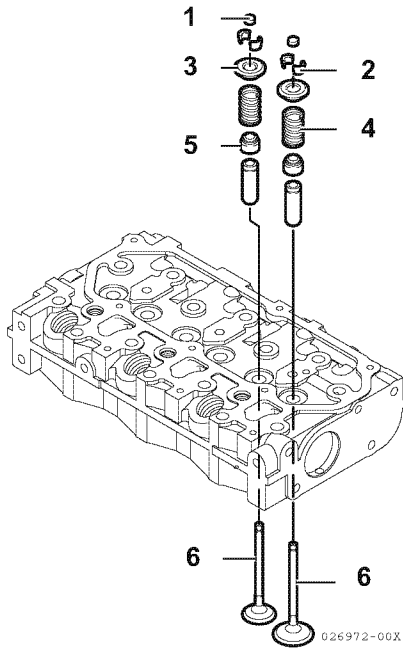

Figure 6-28
- Install all the valves (**Figure 6-28, (6)**) in their proper location in the cylinder head.
- Put the cylinder head on the work bench with the combustion side down to install the valve springs. Install the valve spring (**Figure 6-28, (4)**) and spring retainer (**Figure 6-28, (5)**).
- Insert the valve keeper (**Figure 6-28, (2)**) and slowly release the tension in the valve spring. Install the valve cap (**Figure 6-28, (1)**). Repeat steps on all remaining valves.